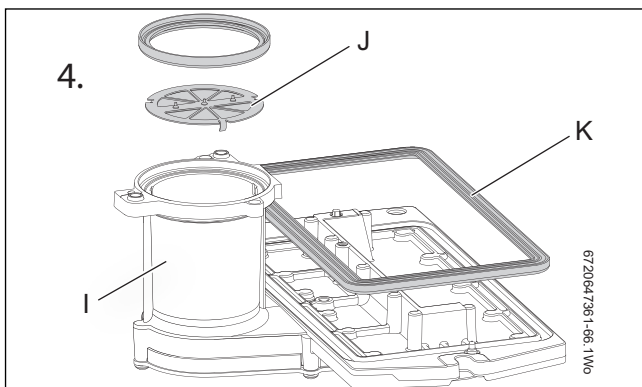

Fig. 84 Diaphragm
- ▶ Remove the burner (H).
- ▶ Ensure that a new seal (K) is used, refer to fig. 84.